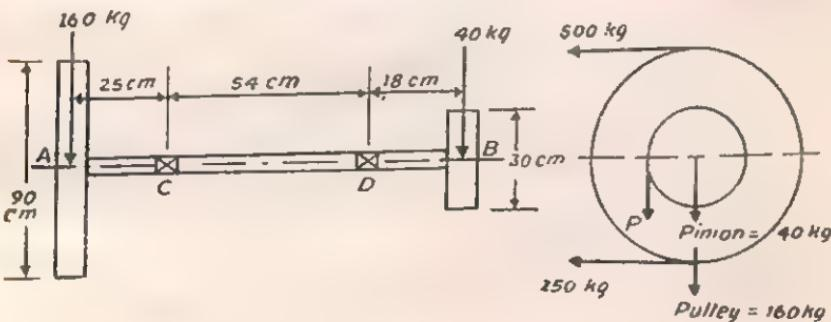

Fig. 12
27. A shaft supports the belt pulley *A* and the pinion *B* at the overhanging ends as shown in Fig. 12. The forces acting and necessary dimensions are also shown in the figure. The belt pulley is 90 cm in diameter and 160 kg in weight. The weight of the pinion is 40 kg and its pitch circle diameter is 30 cm. Calculate the pressure *P* on the tooth of the pinion and the diameter of the shaft if the shear stress is not to exceed 500 kg/cm².